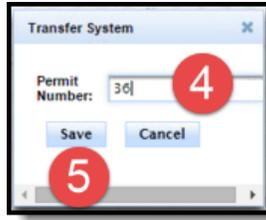

Figure 128: Supervisor System Transfer, Steps 4 and 5
3. Scroll to the **Systems** section at the bottom of the page. Click the **Actions** button, then **Transfer** on the drop-down menu. The **Transfer System** pop-up window appears, as depicted in Figure 128.